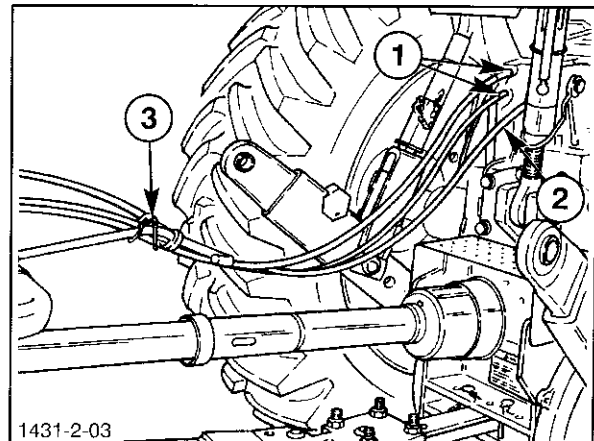

Figure 1-16
5. Ensure the cutter bar shields, 1, are lowered before moving the unit to prevent damage to the shields. Disengage the tongue transport lock, 2, maneuver the tractor through both hard left and right turns, shifting the tongue both full left and full right and raising and lowering the header. Check to be sure the hoses and wire harness do not get pinched or hung up on frame components. Secure excess hose and wire harness using the rubber bungee strap, 3, Figure 1-16, so it is protected.